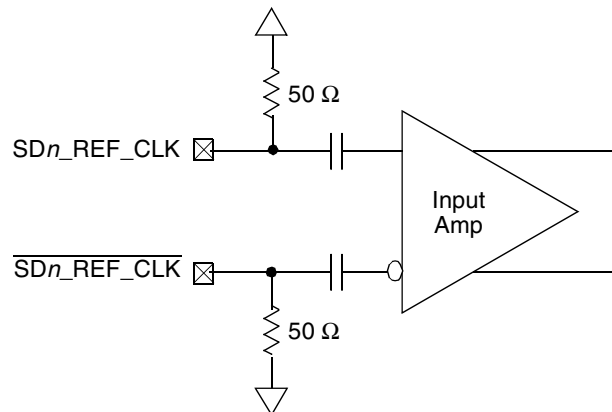

Figure 52. Receiver of SerDes Reference Clocks
Figure 52 shows a receiver reference diagram of the SerDes reference clocks.
- The $\overline{\text{SDn_REF_CLK}}$ and SDn_REF_CLK are internally AC-coupled differential inputs as shown in Figure 52. Each differential clock input ($\overline{\text{SDn_REF_CLK}}$ or SDn_REF_CLK) has a 50 Ω termination to SGND_SRDS_n (xcorevss) followed by on-chip AC-coupling.